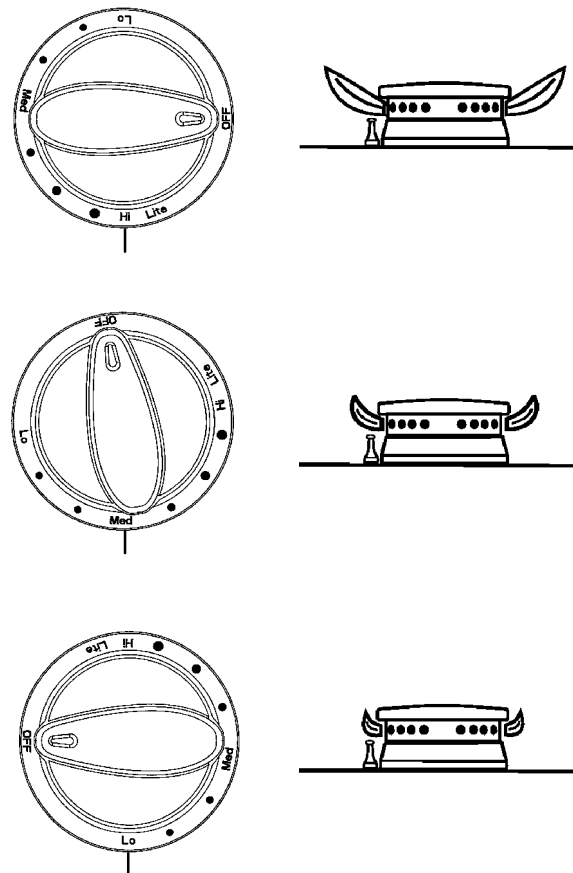

FIGURE 12
After Conversion Steps A, B and C have been completed, check the appearance of each burner flame at the Hi and Lo settings against figure 12. If the flames appear too large or too small, review each step to make sure it was completed correctly.
6. Starting from the LP position (see #5 on page 8, under C. LOW FLAME ADJUSTMENT), turn the screw counter clockwise until the flame stabilizes and matches the pictured "low" setting on figure 12. Proper adjustment will produce a stable, steady blue flame of minimum size. The final adjustment should be checked by turning the knob from high to low several times without extinguishing the flame.
After Steps A, B and C have been completed, check the appearance of each burner's flame at the Hi and Lo settings against figure 12. If the flames appear too large or too small, make sure all steps were completed correctly.